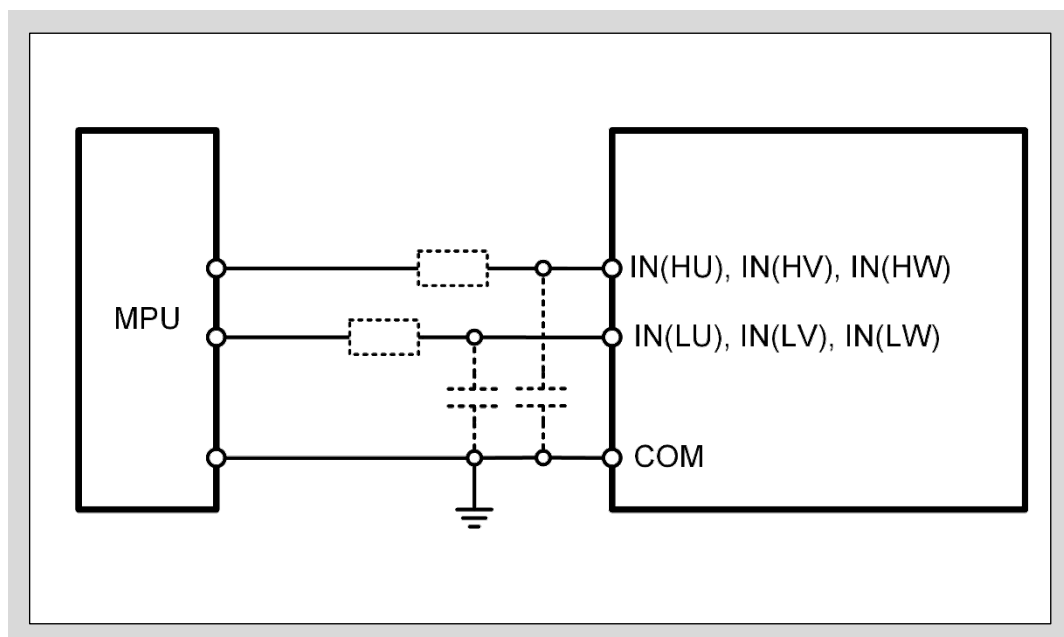
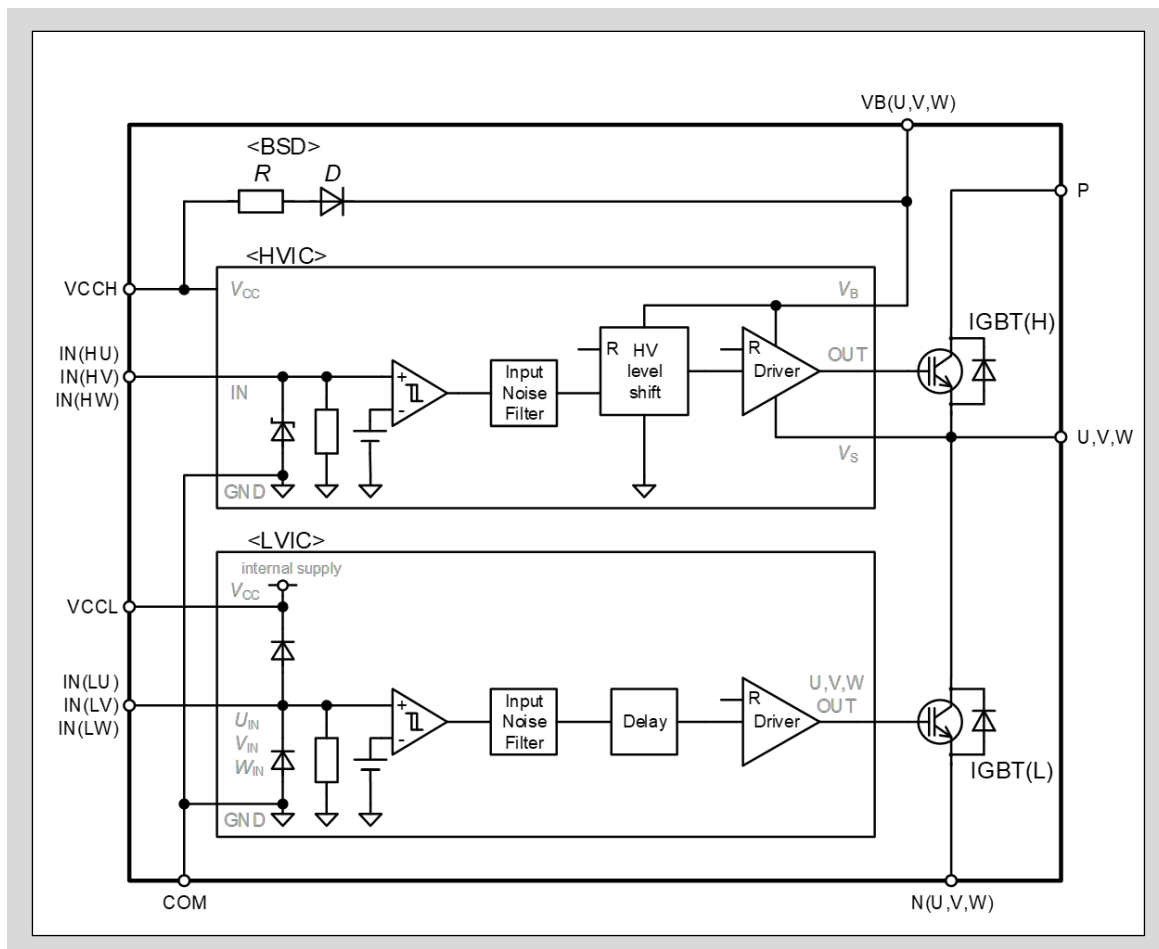

Fig.3-15 Recommended MPU I/O Interface Circuit of IN(HU,HV,HW), IN(LU,LV,LW) terminals
Fig.3-16 Input terminals IN(HU, HV, HW), IN(LU, LV, LW) circuit
- Fig.3-15 shows the input interface circuit between the MPU and the product. It is possible that the input terminals connect directly to the MPU. It should not need the external pull up and down resistors connected to the input terminals, input logic is active high and the pull down resistors are built in.
- The RC coupling at each input (parts shown dotted in Fig.3-15) might change depending on the PWM control scheme used in the application and the wiring impedance of the application's PCB layout.
- The input logic of this product is active high. This logic has removed the sequence restriction between the control power supply and the input signal during startup or shut down operation. Therefore it makes the system fail safe. In addition, pull-down resistors are built into each input terminals in Fig.3-16. Thus, external pull-down resistors are not needed and reduces the number of system components. Furthermore, by setting the input threshold voltage low, a 3.3V-class MPU can be connected directly.
- As shown in Fig.3-16, the input circuit integrates a pull-down resistor. Therefore, when using an external filtering resistor between the MPU output and input of the product, please consider the signal voltage drop at the input terminals to satisfy the turn-on threshold voltage requirement. For instance, $R=100\Omega$ and $C=1000\text{pF}$ for the parts shown dotted in Fig.3-15.
- Fig.3-16 shows that the internal diodes are connected to the VCCL-IN(LU, LV, LW) and IN(HU, HV, HW, LU, LV, LW)-COM terminals. Do not use these diodes for voltage clamp purpose otherwise the product might be damaged.